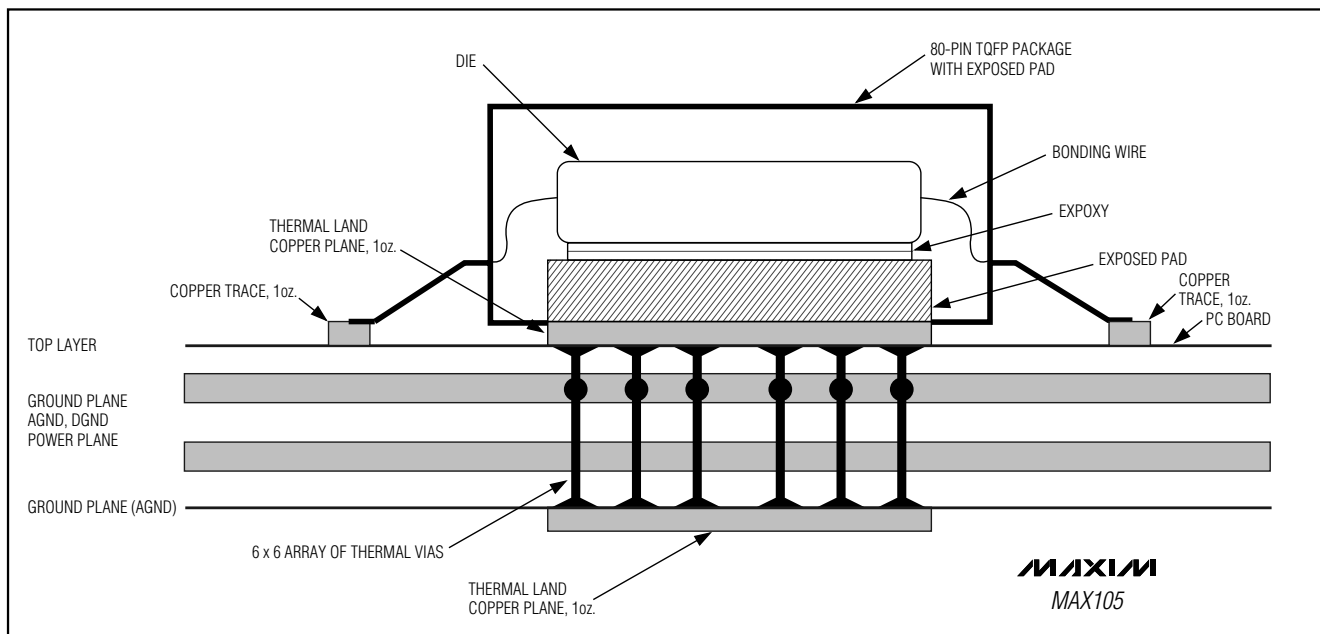

Figure 10. MAX105 Exposed Pad Package Cross-Section
age, the data converter die is attached to an exposed pad (EP) leadframe using a thermally conductive epoxy. The package is molded in a way, that this leadframe is exposed at the surface, facing the printed circuit board (PC board) side of the package (Figure 10). This allows the package to be attached to the PC board with standard infrared (IR) flow soldering techniques. A specially created land pattern on the PC board, matching the size of the EP (7.5mm x 7.5mm) does not only guarantee proper attachment of the chip, but can also be used for heat-sinking purposes. Designing thermal vias\* into the land area and implementing large ground planes in the PC board design, further enhance the thermal conductivity between board and package. To remove heat from an 80-pin TQFP package efficiently, an array of 6 x 6 vias ( $\leq 0.3\text{mm}$  diameter per via hole and 1.2mm pitch between via holes) is required.